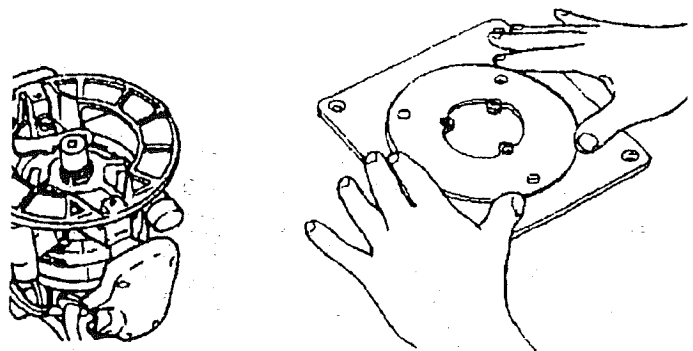

FIGURE 8.
3. Place the router upside down next to the throat plate so that the handles are aligned as shown in Figure 8.